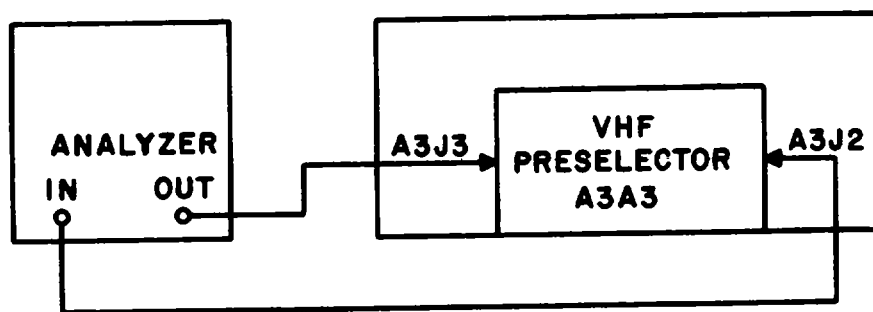

Figure 4-11. VHF Preselector Alignment, Equipment Connectors
4. Connect the test equipment as illustrated in **Figure 4-11**.
2. Connect the test equipment to the High-Band Preselector (A3A3) as illustrated in **Figure 4-11** and reinstall A3A3 into its appropriate slot. Extend the VHF Low-Band Preselector (A3A4).